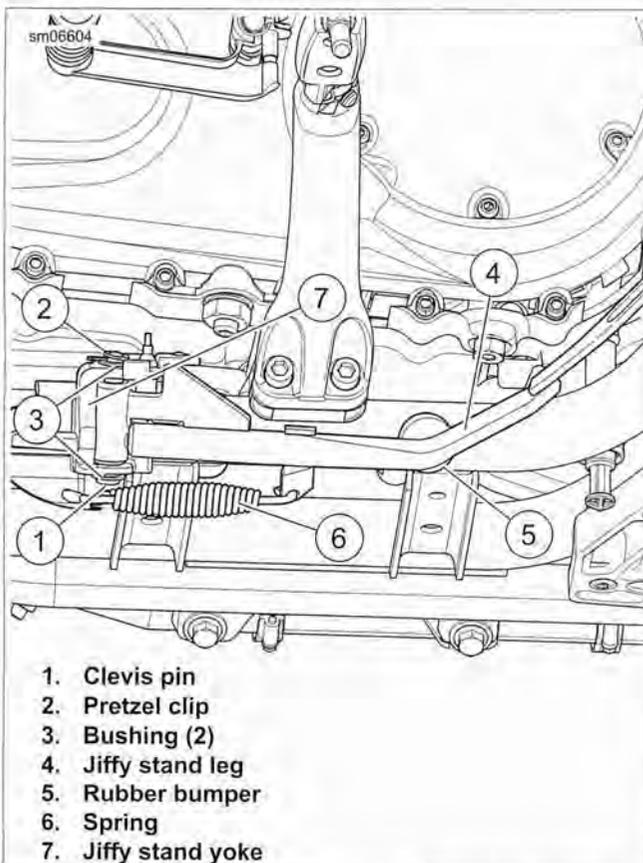

Figure 2-213. Jiffy Stand (Retracted Position) (Typical)
See Figure 2-213. The vehicle is equipped with a jiffy stand (or side stand) that locks when placed in the full forward position (down) with the full weight of the vehicle resting on it.
2. See Figure 2-213. Remove rubber bumper (5) from frame to permit further retraction of jiffy stand leg (4). Additional spring tension relief allows for easier spring removal.
2. Hook either end of spring (6) into spring mounting hole on jiffy stand leg (5). Install other end of spring over frame mounted anchor pin (7).
3. Install bushing (2) onto clevis pin (1) with shoulder of bushing facing head of clevis pin.
4. While holding end of spring in groove of anchor pin and holding jiffy stand leg in its retracted position, place pivot end of jiffy stand leg into yoke (4) on motorcycle frame. Insert clevis pin (1) up through lower pivot hole of yoke and halfway into pivot hole of jiffy stand leg.
5. See Figure 2-213. Lift jiffy stand leg (4) upward, aligning pivot hole of jiffy stand leg with slotted upper hole of yoke (7). Push clevis pin through upper hole in yoke. Make certain that shank of lower bushing (3) fits inside lower pivot hole in yoke.
6. Install upper bushing with shoulder facing up, over end of clevis pin and against upper surface of yoke. Insert **new** pretzel clip (2) through hole in end of clevis pin.
7. See Figure 2-213. Press rubber bumper (5) onto mounting stud on motorcycle frame.